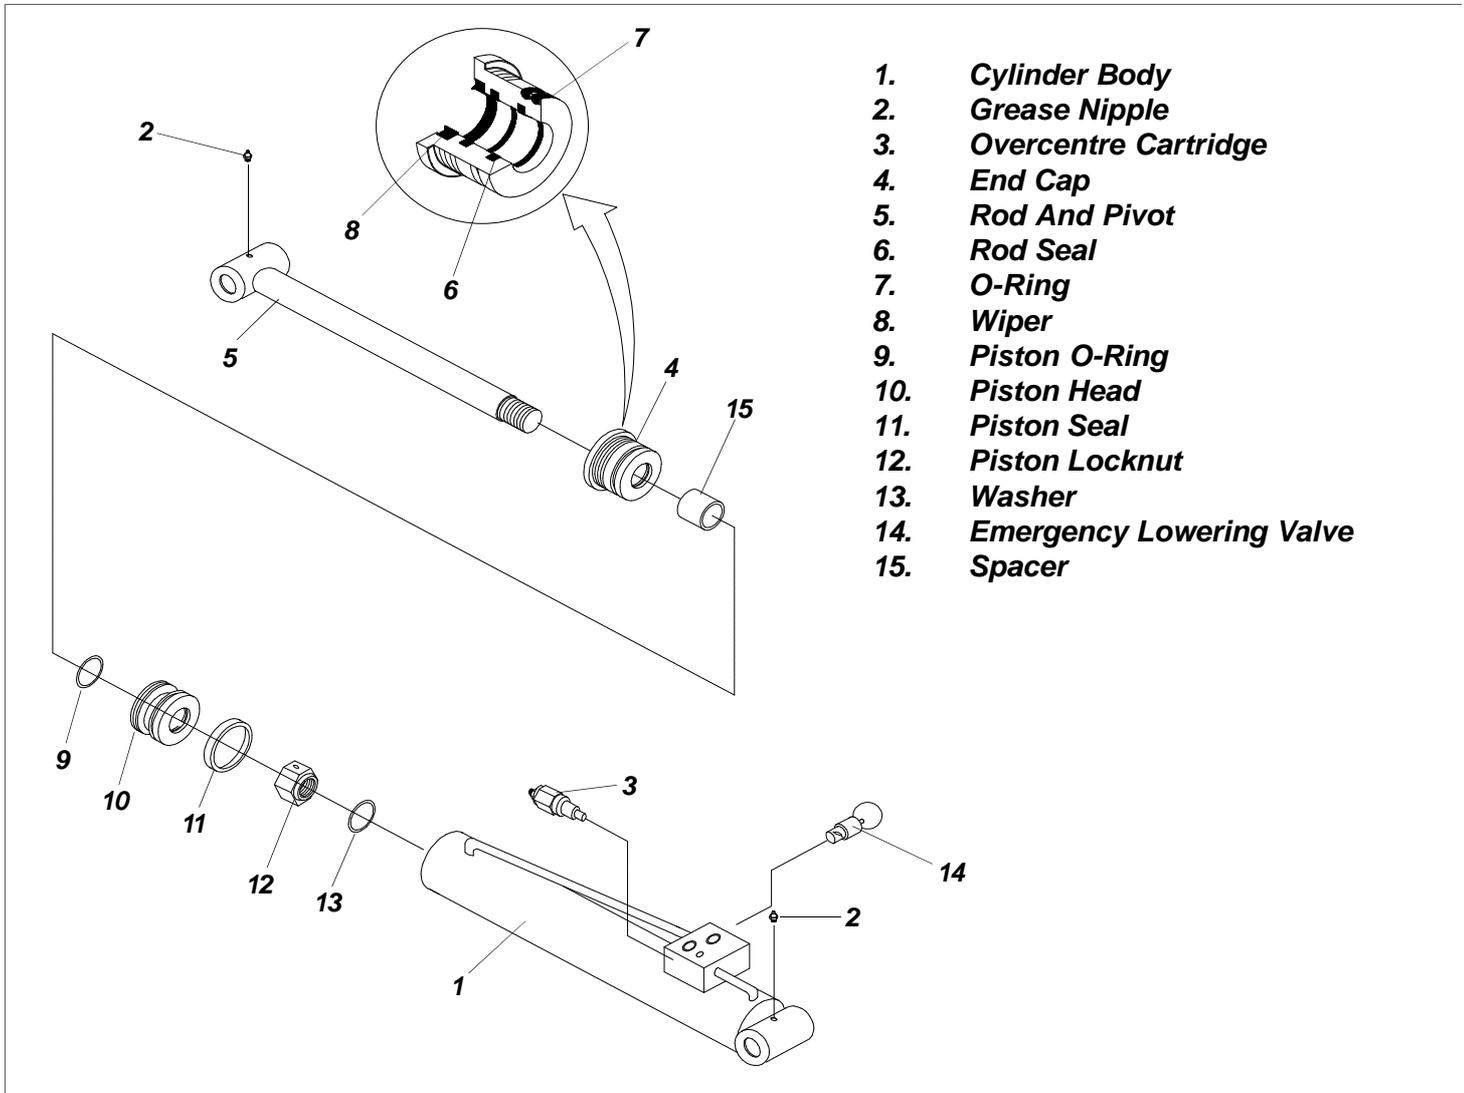

Figure 3-30: Typical Hydraulic Cylinder Component Breakdown
3.16 Lift Cylinder (Figure 3-30)